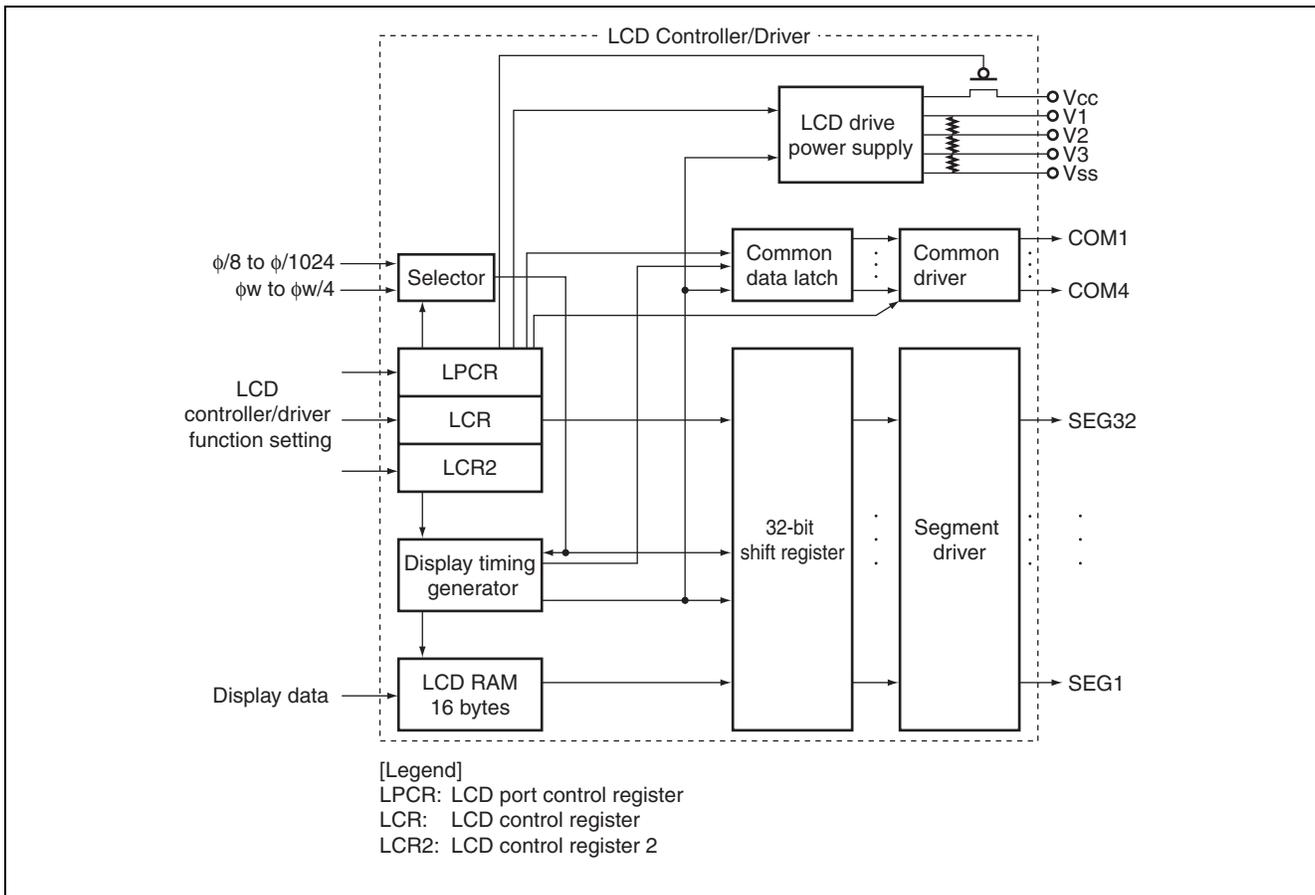

Figure 2.2 Block Diagram of LCD Controller/Driver
2. Figure 2.2 shows the block diagram of the LCD controller/driver used for the sample task.